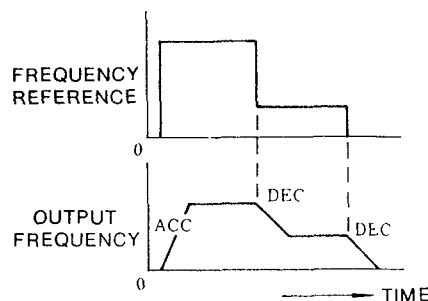

Figure 4. Accel/Decel Time Setting
- (4) Acceleration and deceleration circuit: Acceleration and deceleration times can be independently set by the acceleration (ACC) and deceleration (DEC) time setting potentiometers (See Figure 4)
- (5) Stall prevention circuit: